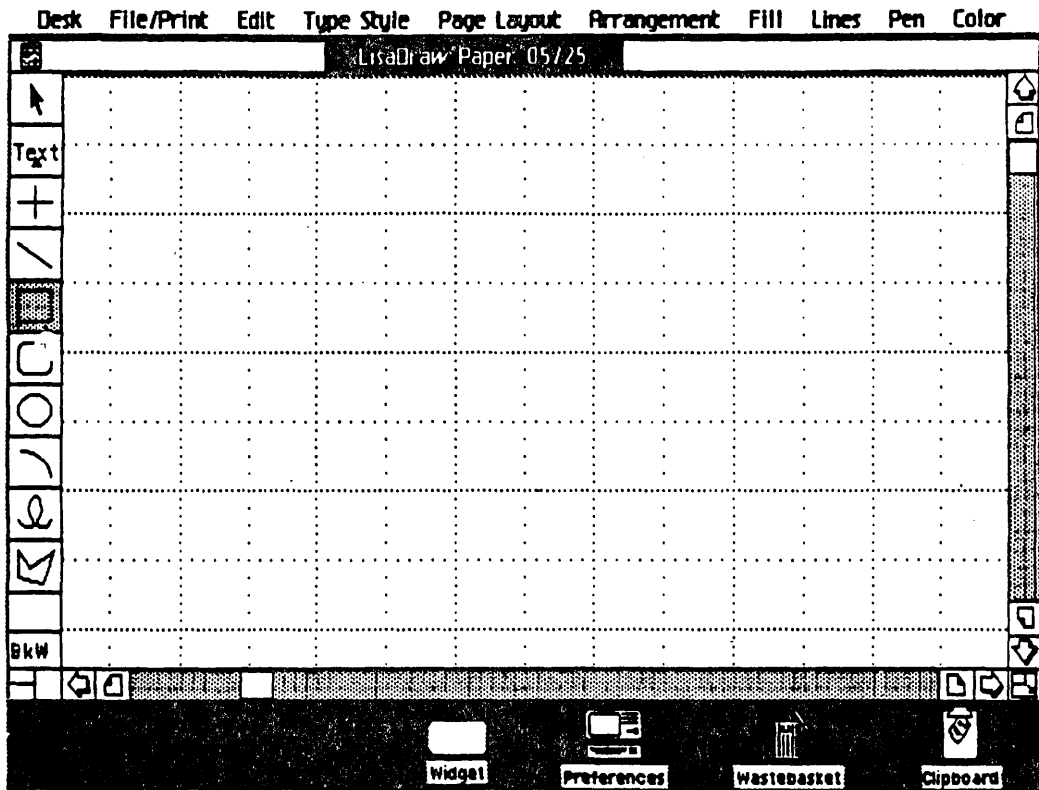

FIGURE 3
8. Move the pointer to the "box" symbol (see Figure 3). Click the mouse button once. Move the pointer, which takes the shape of a cross as you move it, to the drawing area.
Does the display look similar to Figure 3?